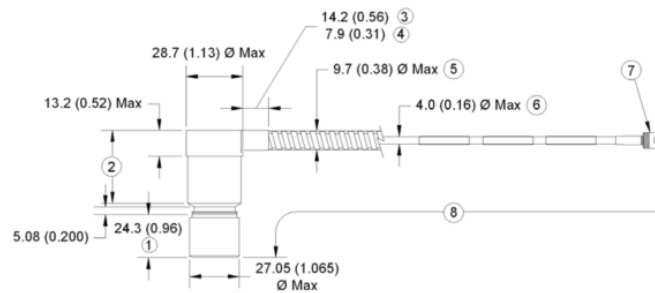

Figure 14: 330851, 3300 XL 25mm Proximity Probe, Smooth 1.06 in Dia. Side Exit Case
- Verify the smooth side-exit case and 3.0-inch ordered length against Figure 14.